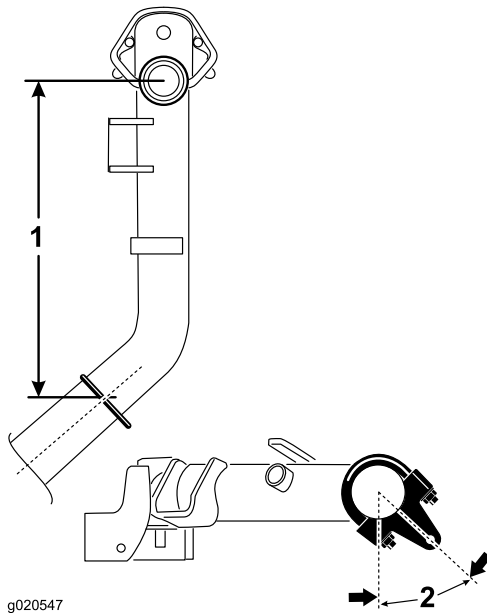

Figure 5
- On lift arms #2 and #3, position the brackets and U-bolts 38.1 cm (15 inches) behind the center line of the pivot knuckle (Figure 5).